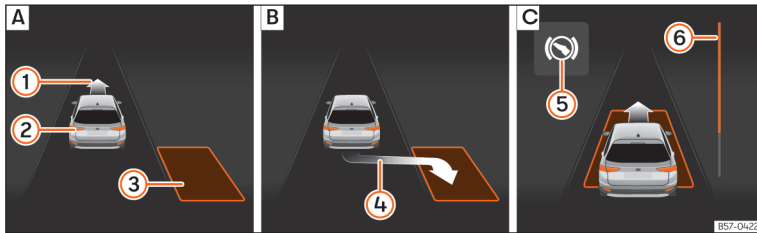
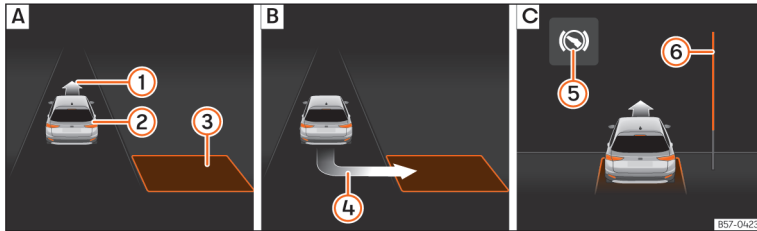

Fig. 126 On the instrument cluster display: angle parking. **A**: Finding a parking space **B**: Parking position. **C**: Manoeuvring.
Fig. 127 On the instrument cluster display: angle parking. **A**: Finding a parking space **B**: Parking position. **C**: Manoeuvring.
- Look at the instrument cluster screen to see if the space has been detected as “appropriate” and if the correct position for parking has been reached »» Fig. 126 **B** or »» Fig. 127 **B**. The space is considered “appropriate” if the instrument cluster display shows the parking indication ④.
- Reverse until the continuous ParkPilot signal sounds; **OR:** reverse until the indication to move forward appears on the instrument panel display >>> Fig. 126 [C] or >>> Fig. 127 [C]; **OR:** reverse until the **Park Assist finished** message appears on the instrument cluster display. The progress bar ⑥ indicates the distance to cover.
- Press the brake pedal until the parking assist system completes the steering wheel turns; **OR:** until the symbol (S) goes out on the instrument panel screen.
- Move forward until the continuous ParkPilot signal sounds; **OR:** move forward until the reverse indication appears on the instrument panel display. The Park Assist system steers the vehicle forward and back until it centres it in the space >>> Fig. 126 [C] or >>> Fig. 127 [C].
The progress bar >>> Fig. 126 ⑥ and >>> Fig. 127 ⑥ on the instrument cluster display shows the relative distance to be covered as a symbol. The greater the distance, the fuller the progress